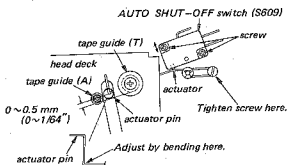

Fig. 3-4. AUTO SHUT-OFF switch (S609, 618) position adjustment
2. Loosen the two microswitch holding screws. Adjust the position of the microswitch so that the switch is turned ON by the actuator pin at the position shown in Fig. 3-4.